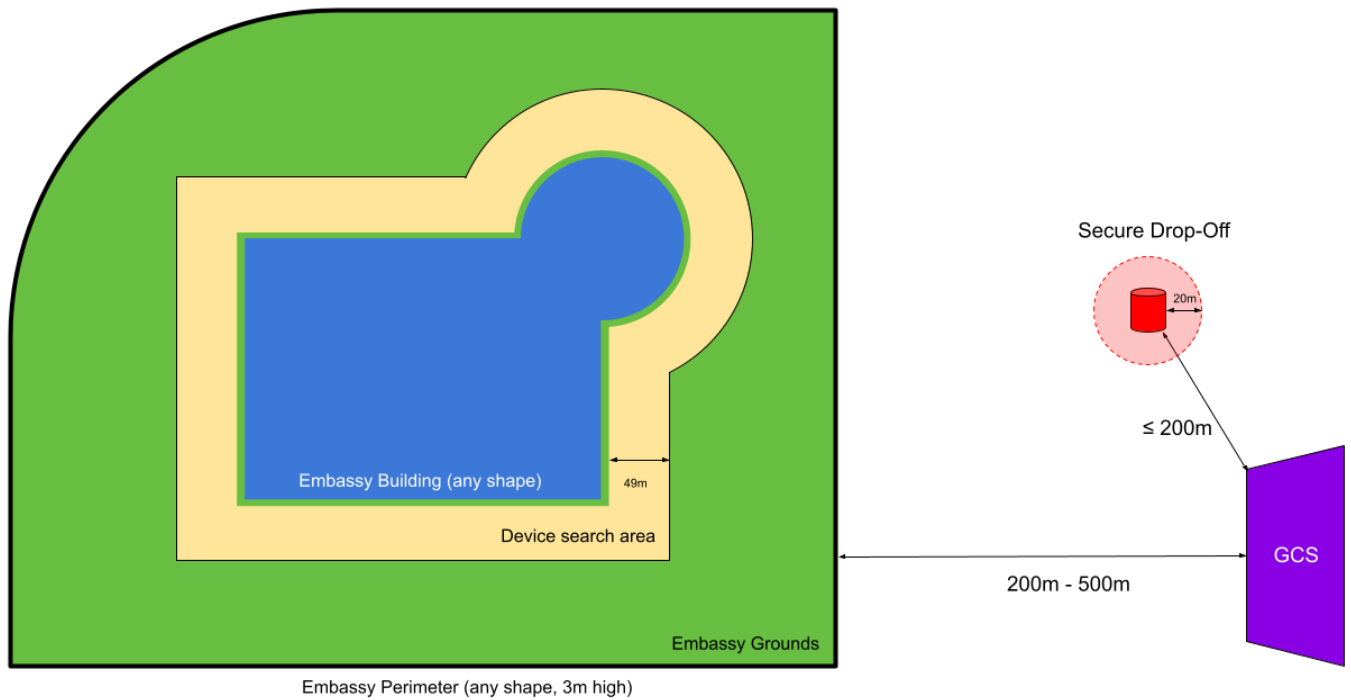

Figure 1 - Task 1 Schematic for Device Detection and Disposal
- a. UGV's will not be able to access the entire site via the ground. Nominally, you should consider that there is a 3-meter-high fence around the embassy (see Figure 1, and the perimeter will be shown in the images provided by Embassy Security).
- a. For clarification, the Device may be placed between 1m and 50m from the embassy building (see yellow area on Figure 1).
- a. Clarification: A member of the flight team may approach to not closer than 20m of the Secure Drop-Off (indicated by the red dashed circle around the Secure Drop-Off on Figure 1). Teams may not approach closer to the Device pickup location than the GCS.
- ii. The Secure Drop-Off will be a standard 45 gal/200 litre metal barrel, or of equivalent size and properties, 87cm high by 58cm in diameter, as shown in red in Figure 1. The barrel will be firmly attached to the ground. UAS may land or attach to the barrel if desired.
- iv. No part of the UAS may be left on embassy grounds (green, yellow or blue in Figure 1).